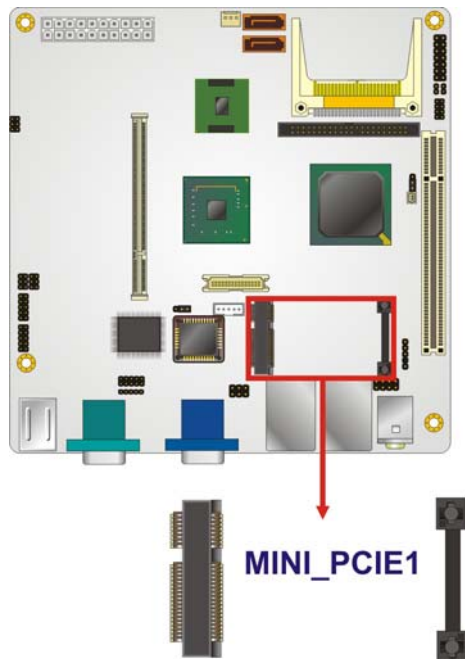

Figure 4-12: PCIe Mini Card Slot Location
- CN Location:** See **Figure 4-12**